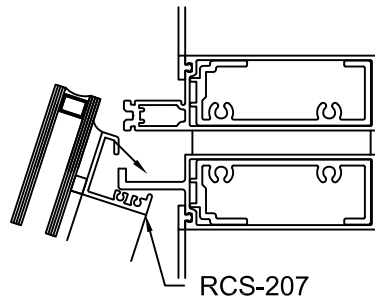

FIGURE 46
- 3.34 Install lower lite by dropping hook of RCS-207 over tongue of horizontal and rotating into position as shown in **FIGURES 46 & 47**. Once glass is in position secure in place using RCS-202-01 cassette clips using a FS-325 fastener. Locate clips at 12" on center at verticals and sill of lite.